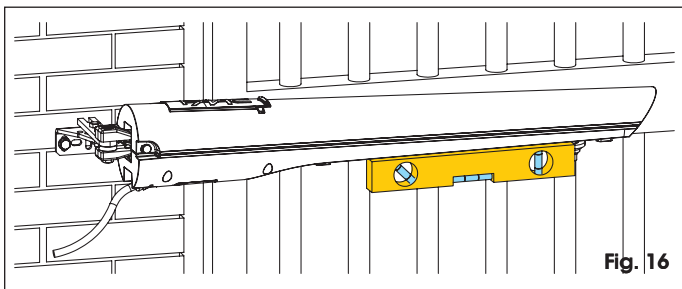

Fig. 16
- 9. Check that the operator is horizontal using a spirit level, as indicated in figure 16, and provisionally secure it with clamps or two welding points.